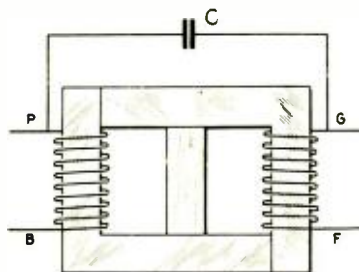
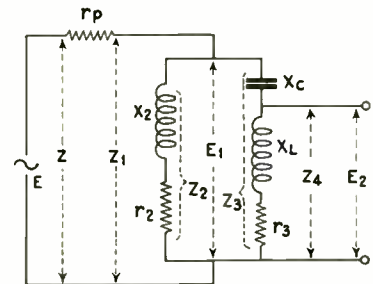

Fig. 1. Details of the tuned double impedance unit
Fig. 3. Illustrating the electrical properties of a single stage tuned double impedance amplifier
- FIG. 1 -
drivers we will analyze the circuits in Figs. 1, 2 and 3.
In the circuit in Fig. 1 we have a loosely coupled coil, coupling the measuring equipment to the driver circuit. The oscillator proper consists of a Meissner circuit, which means that the inductance is a split affair with a condenser across the entire inductance, half of the inductance being in the grid circuit and the other half in the plate circuit.
In Fig. 3 we have a much better arrangement for a laboratory driver. We find the condenser, of course, tuning the grid coil as in our other diagram. A little different system of feed-back is used, however. A shunt feed battery system is used, which allows the use of a variable resistance in the plate circuit to reduce the feed-back to the best operating position. This resistance allows the reduction of the feed-back voltage to the grid, thus preventing overloading, and acting as a harmonic purifier. Connected directly to the plate we have a condenser, a resistance and a voltage divider. This allows regulation with very little change in the frequency caused by external load conditions. As much better as this circuit is to the other ones there is still room for improvement; namely, we still have a little bit of trouble with frequency variation on account of variations in load. Of course, this trouble is much less than in the inductive systems of pick-up. We also find that varying the feed-back resistance varies the frequencies to a marked degree. Thus, this circuit, which is much better than the others, still is not the ideal insofar as the laboratory driver goes.
we did not have the amplifier tube to gain the signal strength. In the plate circuit of both tubes we find that the battery power is fed through resistances. This system of battery feed is used in preference to a choke coil system because of the fact that, while it has one frequency to which it responds most efficiently, at the same time the variation of impedance with frequency is, to all workable purposes, constant and since we do not need a large power output from this driver for measuring transformer characteristics, it is not necessary for us to use a choke coil system. This resistance arrangement, however, is arranged on plugs. This allows making the driver flexible in regards to its frequency as it is impossible to use the resistance arrangement below 1000 meters. We also find in this driver that where in the driver circuit in Fig. 3 we had difficulty with keeping the frequency constant while varying the feed-back resistance, we no longer have this difficulty to a marked extent.
- FIG. 3 -
The tuned double impedance circuit and units are illustrated in Figs. 1 and 2 and the impedance relations are shown in Fig. 3. Believe it or not Fig. 3 is the same circuit as Fig. 1. The important formulae to remember in connection with the circuit are two in number.
The transformer is tied up with two half wave rectifiers as shown in Fig. 1. Quoting from Van der Bijl's "Thermionic Vacuum Tube:" when the transformer voltage is such that D is at a positive potential with respect to O, an electron current will flow in the direction of the arrow through the tube V, thus charging the condenser C such that A is positive with respect to O. But during this half period no current will flow through the tube V1 in circuit DB. During the next half cycle current flows only through V1—DB, charging B negatively with respect to O. The potential difference between A and B (if the condensers did not discharge themselves) would therefore be twice the transformer
The complete arrangement for a double voltage "B" eliminator, tied up with a 210 power tube, is shown in Fig. 3. T is a standard "B" eliminator power transformer while V and V1 are two half wave rectifier tubes. The condensers C and C1, which are instrumental in doubling the voltage, have a capacity of 2 mfd. each. The voltage rating on these condensers need not be very high.